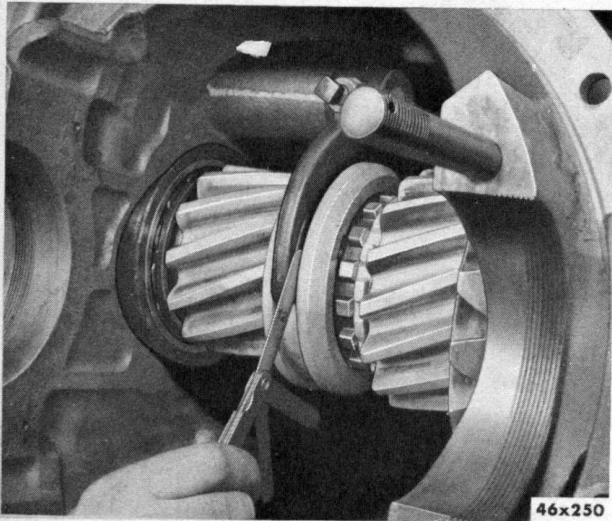

Fig. 83—Checking Clearance of Shift Fork in Shift Collar
- (1) Tap shift unit sleeve and bushing assembly into carrier housing over original shim pack. Install lock washer and stud nut and tighten to the correct torque.
- (2) Install new shift unit mounting flange gasket.
- (3) Hold shift fork in position. Align lock screw holes in shift shaft and slide shift unit and shaft assembly into position.
- (4) Tighten lock screw securely and tighten lock nut.
- (5) Install lock washers and stud nuts and tighten to the correct torque.
- (6) Check clearance of shift fork coined faces in shift collar with a feeler gauge (Fig. 83).
- (5) Check clearance of shift fork coined faces in the shift collar with a feeler gauge (Fig. 83).